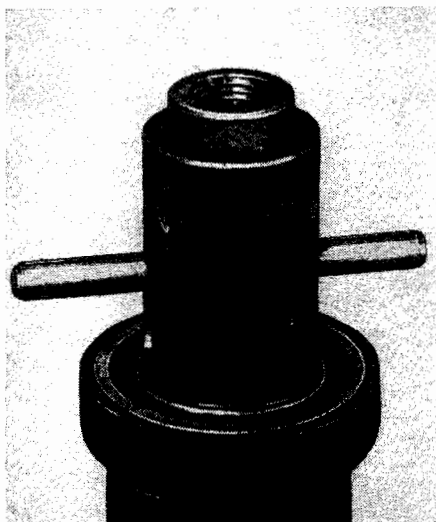

Fig. 96
The ball bearings should be removed from the frame in the manner illustrated in Figs. 96 to 98, using the 22-51.006 extractor. For fitting and removing the clamping heads and the other components of the telescopic fork see Section 5.5.
5.5. Telescopic Fork (see also Fig. 96, Section 5.4.)